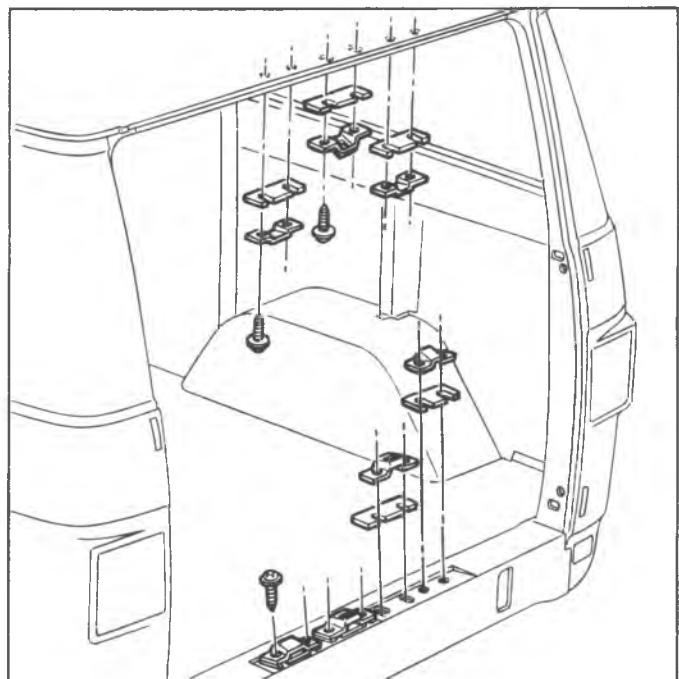

Fig. 36G—Rear Door Strikers and Wedges
1. Adjust striker by adding or deleting shims as necessary to obtain dimension as shown in figure 36G. This dimension can be checked by applying grease to the latch and slowly closing door until striker fully engages latch. Then open door and measure from grease impression to bottom of latch slot. Torque to specifications.